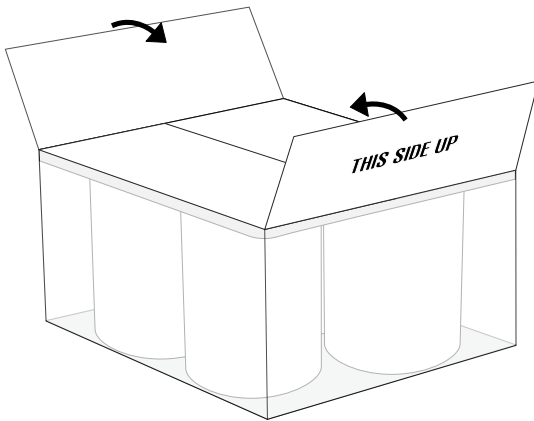

Figure 5
8. Fold flaps on top of carton so that they meet. "THIS SIDE UP" must be visible on the outside of the carton. (See Figure 5)